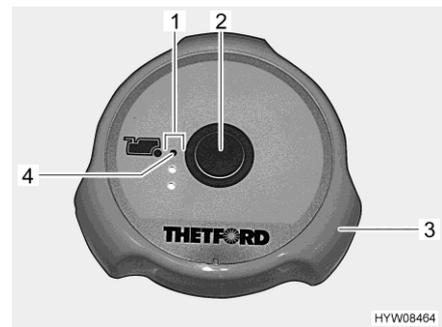

Fig. 111 Flush button/indicator lamps (Thetford toilet)
- Before flushing open the sliding trap of the Thetford toilet. To do this, turn the rotary handle (Fig. 111,3) in an anticlockwise direction.
- For flushing, press the blue flush button (Fig. 111,2).
- After flushing close the sliding trap. To do this, turn the rotary handle (Fig. 111,3) in a clockwise direction.
The indicator lamps (Fig. 111,1) show the filling level of the sewage tank. The red indicator lamp (Fig. 111,4) lights up whenever the sewage tank has to be emptied.